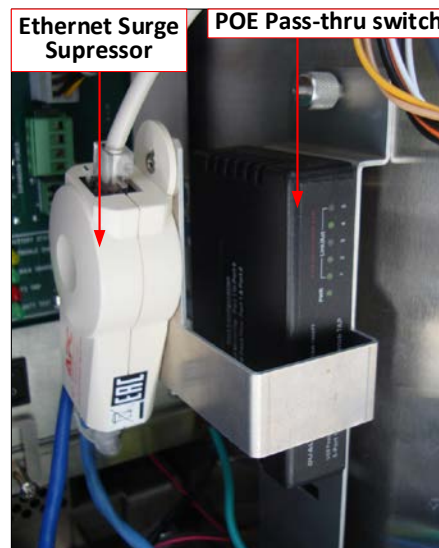

Figure 34. PoE Pass-Thru Switch and Ethernet Surge Suppressor
2. Connect the network cable by inserting the RJ-45 connector at the XPT into port 1 of the PoE pass-thru switch located inside the XPT. A patch cable connects port 3 of the PoE switch to the Ethernet surge suppressor. (See Figure 34)